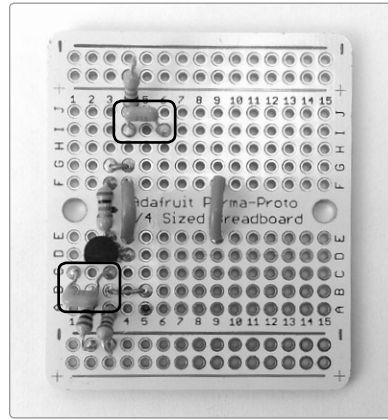

FIGURE 14-13: *Installing the input and output capacitors*
Step 11 Finish off the preamp with the 0.1 μF input and output capacitors. These little caps are marked *104* (although those markings can be downright infinitesimal; keep a magnifier handy). The input cap runs from 1C to 3C. The output cap runs from 4I to 6I. Solder these now and compare them to Figure 14-13.